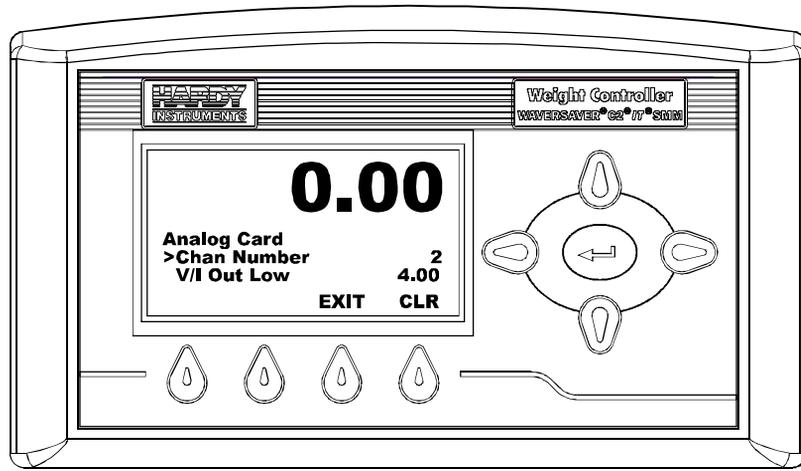

FIG. 157 ANALOG CARD/SELECTING CHANNEL 2
- Step 19. Press the right or left button to change the Channel. (See Fig. 157)